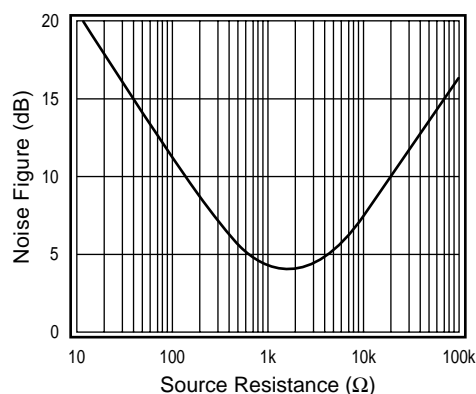

Figure 8: Noise Figure vs. Source Resistance
In RF applications, noise is frequently specified as Noise Figure (NF). This allows the calculation of signal to noise ratio into a defined load. Figure 8 plots the NF for a CLC446 at a gain of 10, and with a feedback resistor R_f of 100Ω . The minimum NF (3.9dB) occurs when the source impedance equals 1600Ω .